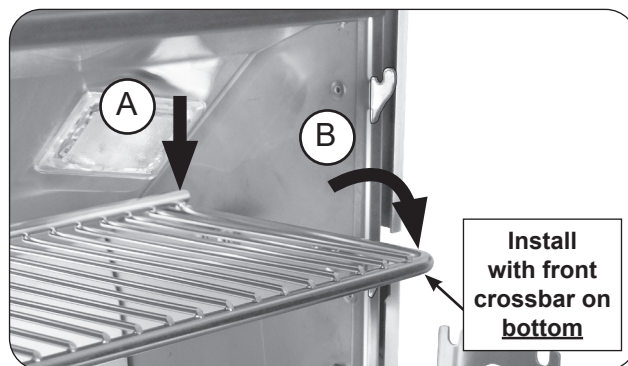

Fig. 26-2 Place warming rack for use
2. With the warming rack oriented as shown, carefully rest the rear of the rack onto the rear support plates (see Fig. 26-2, A), then lower the warming rack arms onto the lower hooks for use (see Fig. 26-2, B).